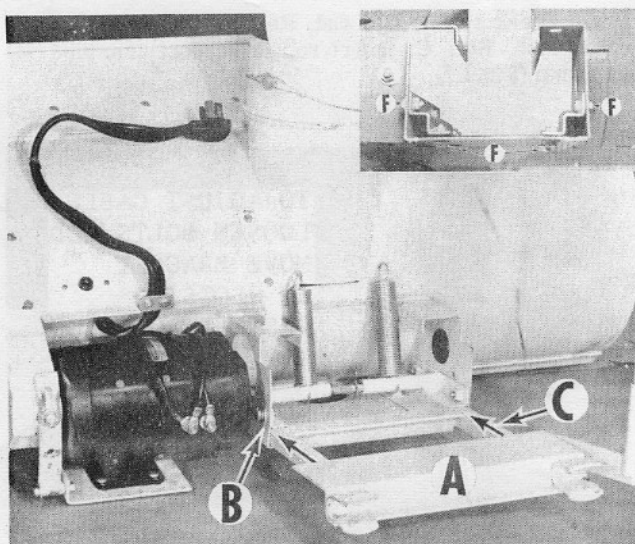

Fig. 11
Place Snow Thrower mounting bracket (A) directly in back of the Snow Thrower as illustrated in (Fig. 11) Slide square shaft extensions into mounting pocket (B), side shaft extension (C) completely in until contact is made inside of square hole.